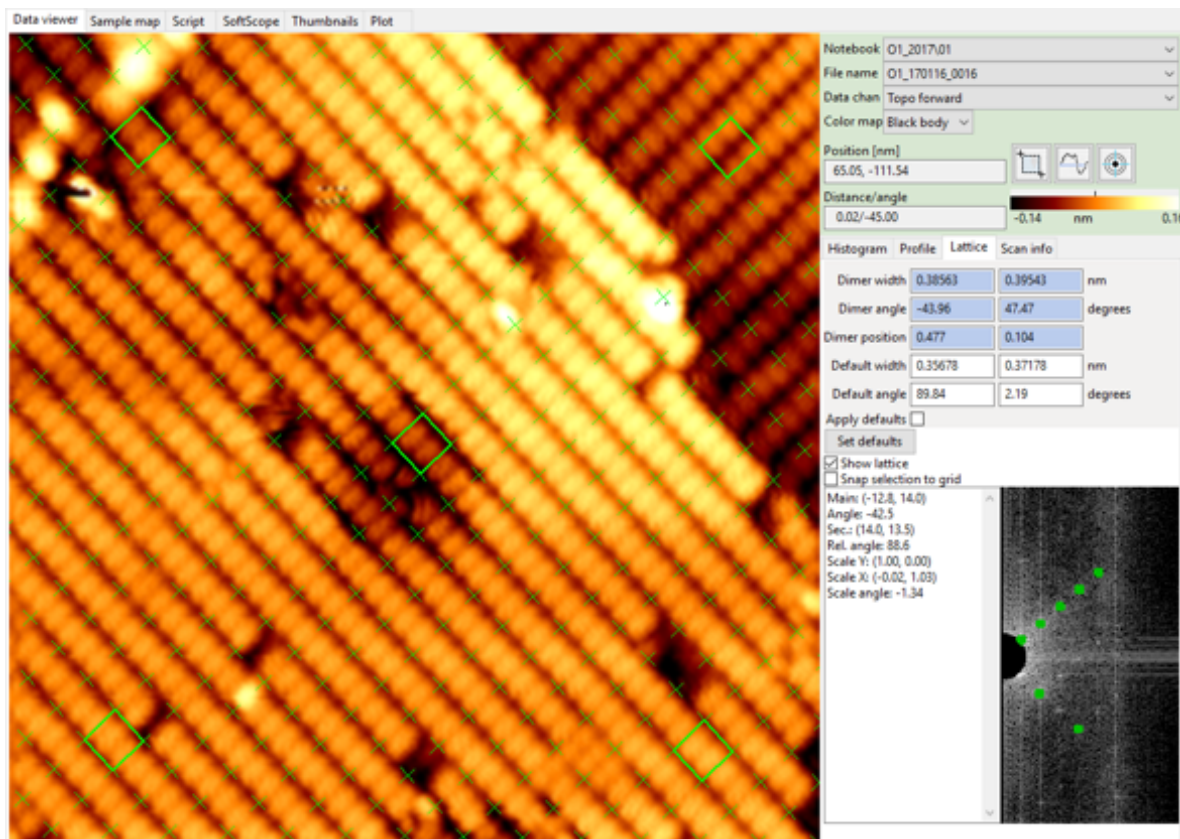

Figure 5.2: The Lattice tab, with pixel grid overlay on the STM image.
In order to perform lattice-aligned lithography, it is necessary to determine the location and direction of the Si(001) dimer rows. One benefit to performing lithography using scripts is the capability to use real-time data analysis to help define lithography vectors. More importantly, data analysis can determine dimer row directions for Si(001) as well as the phase offset of the periodic structure in order to align the vectors relative to the local surface lattice. Figure 5.2 shows an example of an image along with all of its lattice parameters listed in the **Lattice** tab. In the **Lattice** tab, 2-D Fourier Transform data, **Dimer width**, **Dimer angle**, and **Dimer position** for the image shown in the **Data viewer** tab are shown, relative to the Image frame of reference. **Default width** and **Default angle** represent stored data for those relevant parameters, which are defined globally relative to the Piezo frame of reference. Because the speed at which the tip travels across the image and down it during scanning is so different, the lattice numbers for the two directions will typically be rather different. Furthermore, drift or some residual creep will also affect the lattice data from an image. To set up global lattice parameters for use in lithography, therefore, it is better to run the `SetDefaultLattice()` script, which takes multiple images to check for consistent lattice data. The **Default width** and **Default angle** values can also be updated either by pressing **Set defaults** to use the values from the current image, or by manually entering values into the fields themselves. The Default values are used when the **Apply Defaults** radio button is selected in the **Lattice** tab, otherwise the values from the most recent image are used.